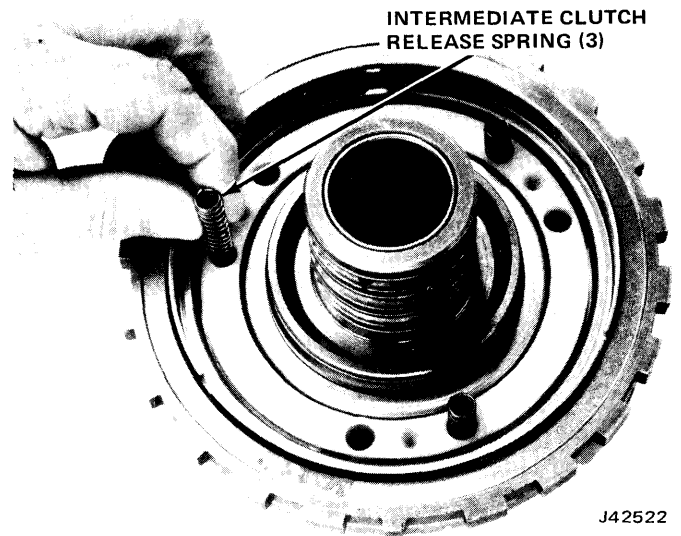

Fig. 7-98 Installing Intermediate Clutch Release Springs
(6) Install three release springs in spring holes of spring guide (fig. 7-98). Space springs equally.